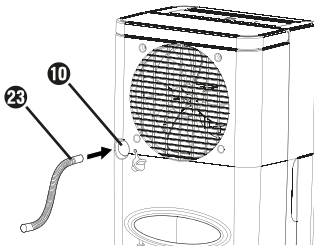

Fig. 4
- ◆ Connect either the supplied hose 23 or the EU garden hose adapter 24 to the water outlet opening 10 (see figures 4 and 5).